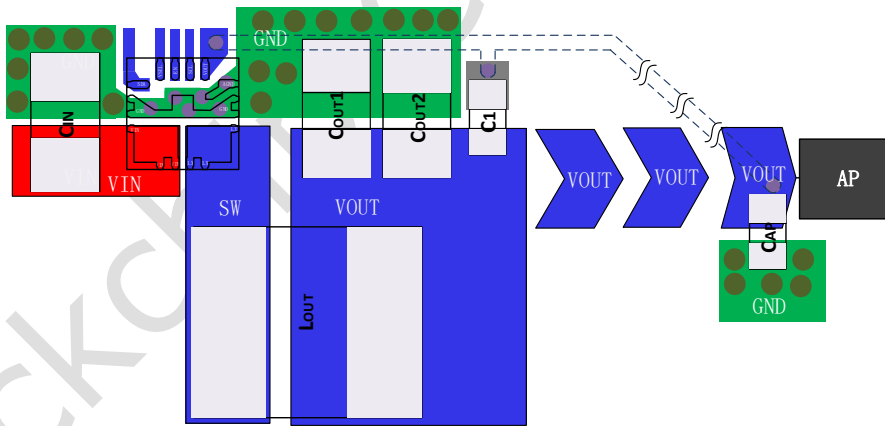

Fig. 6-3 PCB Layout Suggestion
- If your feedback circuit so long and the PCB layout must be follow Fig. 6-3. The capacitor of the C1 must be placed close to the COUT. And the Pin of the VOUT must be connect from the capacitor of the CAP.